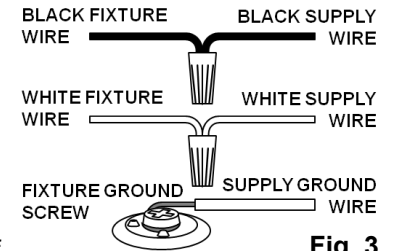

Fig. 3
4. Connect the black fixture wire to the black (+) supply wire and connect the white fixture wire to the white supply wire (-) using wire connectors (not included). **(Fig. 3)**